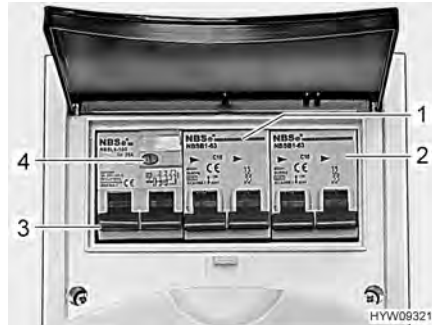

Fig. 69 Safety cut-out and FI-switch (240 V fuse box)
A fault current protection switch (FI-switch) (Fig. 69,3) in the fuse box protects the complete vehicle from fault current (30 mA).
The downstream safety cut-out (10 A) (Fig. 69,1) secures the 240 V sockets, the transformer/rectifier, the auxiliary charging unit and the refrigerator.
For vehicles with special equipment, e.g. roof air conditioning unit, the device is protected by an additional safety cut-out (16 A) (Fig. 69,2).
- When the vehicle is connected to the 240 V power supply, press the test button (Fig. 69,4). The fault current protection switch (FI-switch) must be activated.